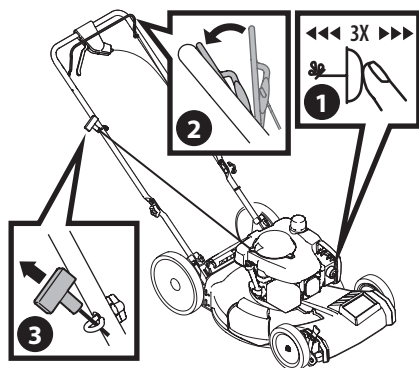

Figure 5
1. Push primer 3 times. Wait about two seconds between each push (Figure 5). In temperatures below 50° F, prime 5 times. After the engine is warmed up, one prime may be needed for all temperatures.
3. Pull the recoil starter handle lightly until resistance is felt, then pull rapidly to overcome compression, prevent kickback, and start the engine (Figure 5). Repeat if necessary.